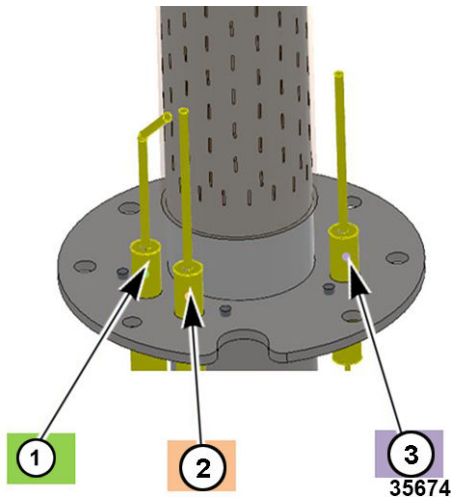
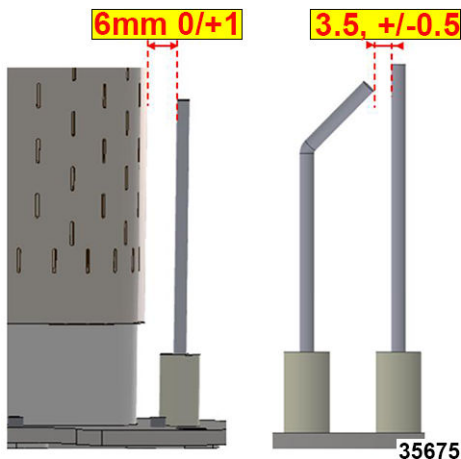

Fig. 130
Fig. 131
3. Measure dimensions as shown in Fig. 130 and Fig. 131.